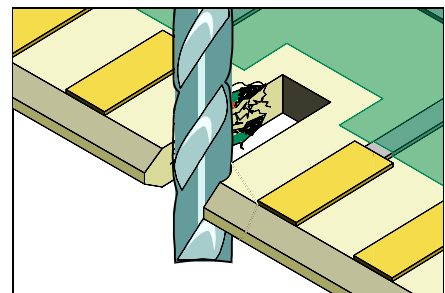

Figure 1: Mill out the damaged area using a milling machine or Precision Drill System.
2. Mill out the damaged area using a milling machine or Precision Drill System and carbide end mill. (See Figure 1).